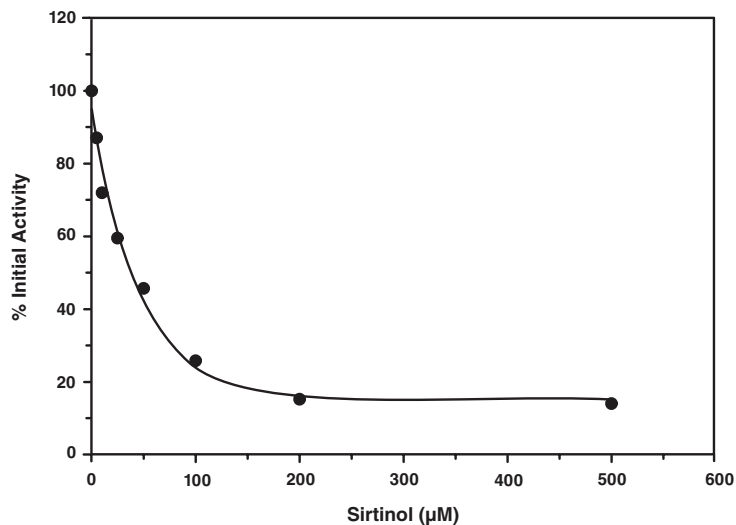

Figure 3. Inhibition of SIRT1 by Sirtinol ( $IC_{50} = 38 \mu M$ )
4. Either graph the Percent Inhibition or Percent Initial Activity as a function of the inhibitor concentration to determine the  $\text{IC}_{50}$  value (concentration at which there was 50% inhibition). An example of SIRT1 inhibition by Sirtinol, a sirtuin-specific inhibitor, is shown in Figure 3 on page 16.19,20